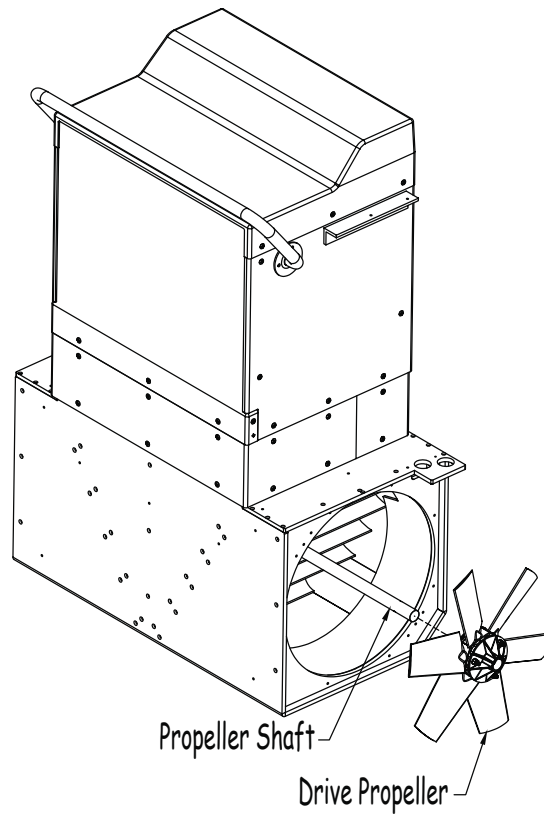

Fig 25
24. Slide the drive propeller off of the propeller shaft (Fig 25).